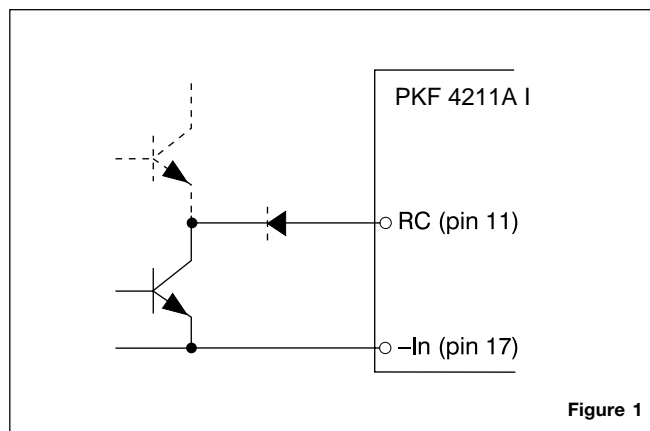

Figure 1
Turn-on or turn-off can be realized by using the RC-pin. If pin 11 is connected to pin 17 the power modules turns off. Normal operation is achieved if pin 11 is open (NC). To ensure safe turn-off the voltage difference between pin 11 and 17 shall be less than 1.0 V. RC is an open collector compatible output with a sink capacity of 1mA (see fig. 1).